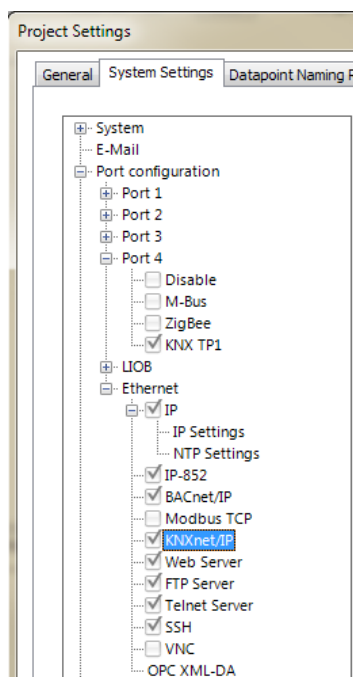

Figure 152: Enabling KNX/TP1 and KNXnet/IP in the Project Settings Dialog.
2. In the **System Settings** tab enable the KNX for Port 4 and/or for the Ethernet port, as shown in Figure 152.